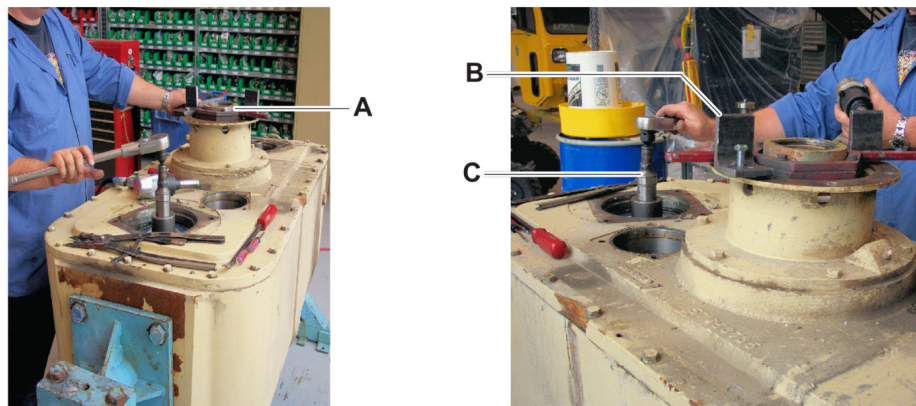

Figure 5
5. Remove the spindle cap (Figure 5, item A) with the spindle nut holding tool (item B), input pinion tool, and ratchet as shown. Rotate the input pinion tool (item C) counter-clockwise as viewed from the top of the housing.